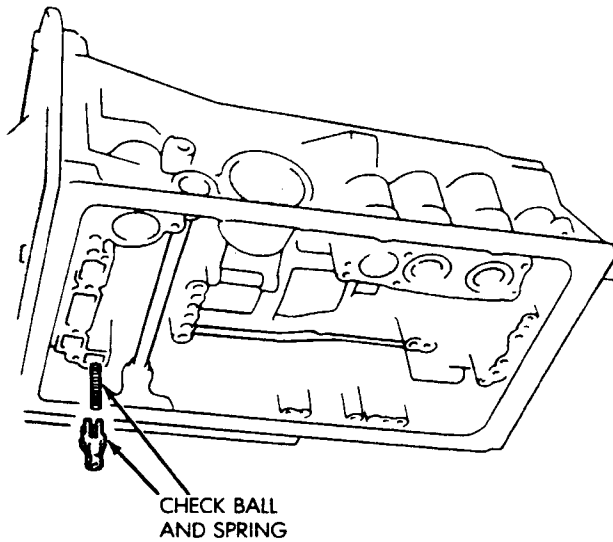
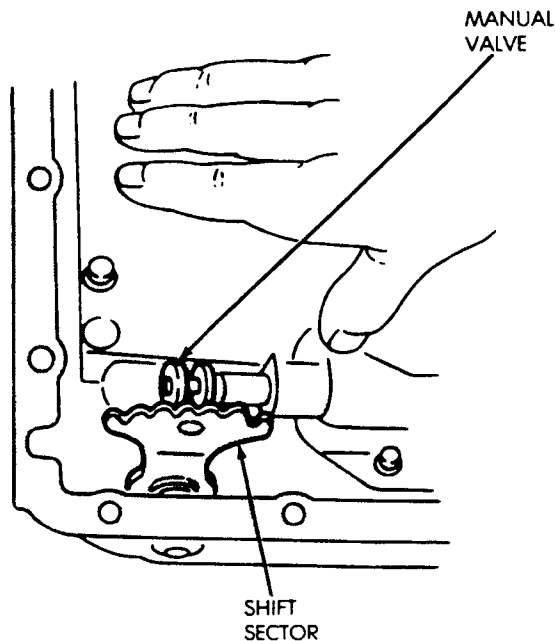

Fig. 16 Removing/Installing Valve Body Check Ball And Spring
Fig. 17 Align Shift Sector And Manual Valve
(8) Remove valve body and check ball and spring (Fig. 16).
- (2) Install check ball and spring (Fig. 16).
- (3) Position accumulator springs and spacers on valve body.
- (4) Align valve body manual valve with shift sector (Fig. 17) and carefully position valve body on case.